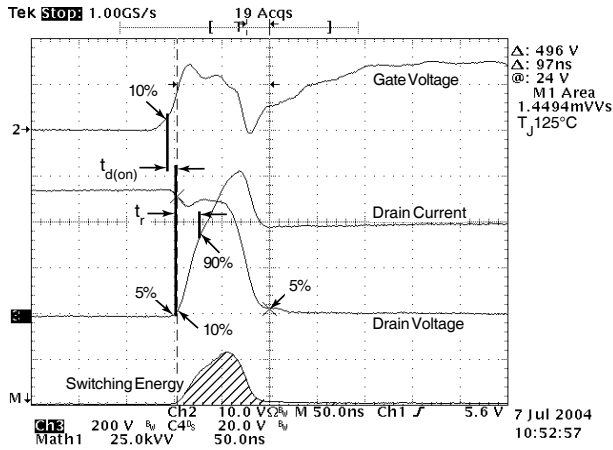

Figure 18, Turn-on Switching Waveforms and Definitions
① Repetitive Rating: Pulse width limited by maximum junction temperature
② Pulse Test: Pulse width < 380 μs , Duty Cycle < 2%
③ See MIL-STD-750 Method 3471
④ Starting $T_J = +25^\circ C$, $L = 4.16mH$, $R_G = 25\Omega$, Peak $I_L = 38A$
⑤ dv/dt numbers reflect the limitations of the test circuit rather than the device itself. $I_S \leq -I_D 38A$ $di/dt \leq 700A/\mu s$ $V_R \leq 800$ $T_J \leq 150^\circ C$
⑥ E_{on} includes diode reverse recovery. See figures 18, 20.